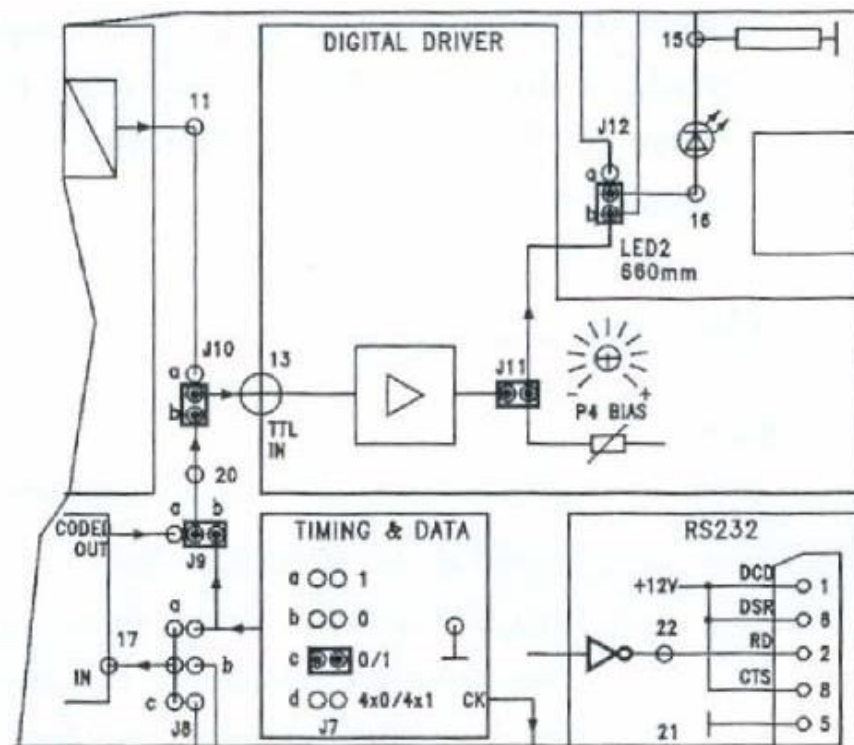

Figure 4.3: Connection Diagram
2. Disconnect the jumper j13 if connected and connect j7c-j9b-j10b-j11-j12b, so that the circuit can be arranged as it is shown in fig 4.3. This configuration includes the LED and the photodiode at 660 nm; moreover an alternating data signal (0/1) is applied to the input of the digital driver